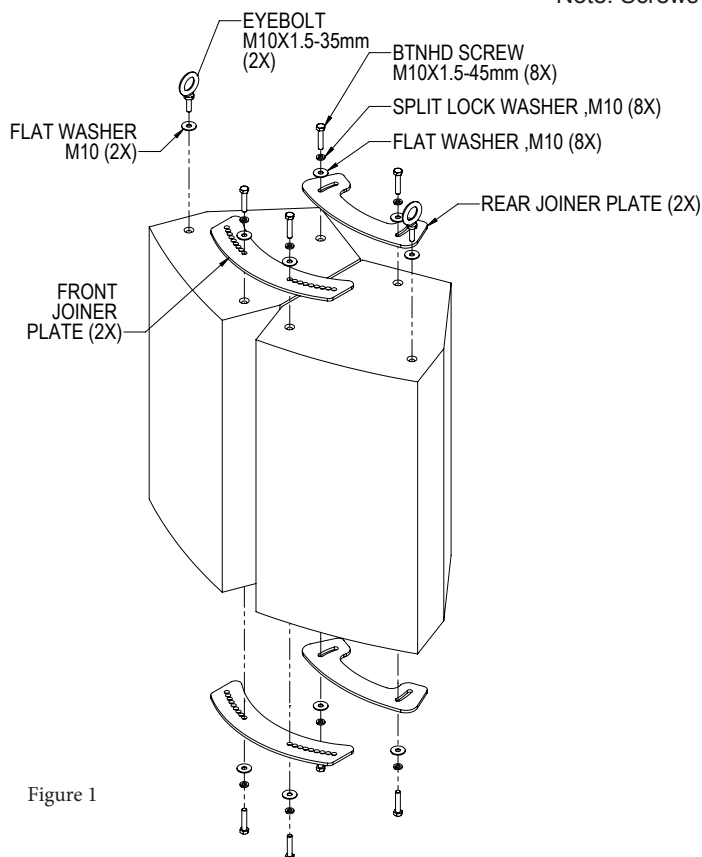

Figure 1
Install the rear joiner pull back plate on the rear inserts of the speaker using the slots of the plate (Figure 1). Install the other front joiner plate on the two front rigging inserts using the corresponding holes for the appropriate splay angles. Use the provided M10 screws, lock washer and flat washers. Do not tighten screws; leave it snug until all plates are in position.
Step 5: Install another front joiner plate on the two front rigging inserts using the same holes as on the bottom plate. Use the provided M10 screws, lock washer and washer to secure the plate (Figure 1).
Step 7: Install M10x 35mm long eyebolts to the top of the speaker as shown (Figure 1).